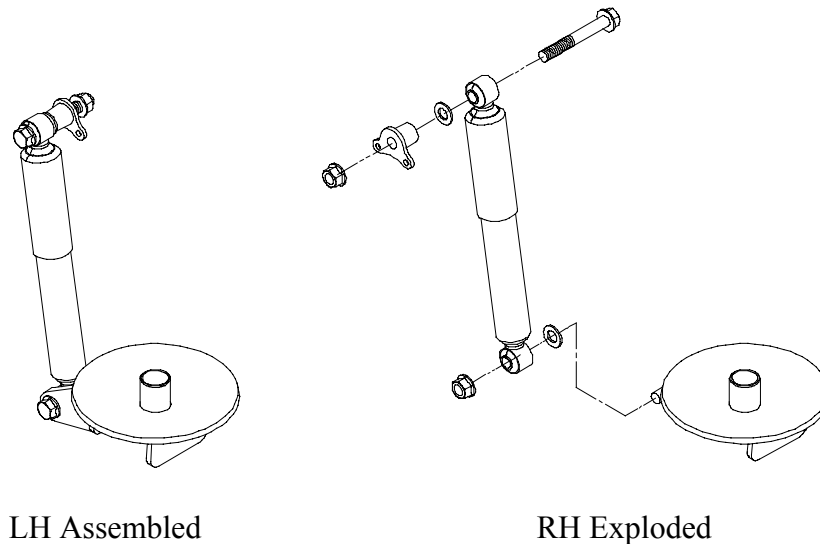

FIGURE 6
Shock absorbers are provided on the 1000 Series Suspension as an option to provide specific ride properties for different road conditions. The 1000 Series suspension may be fitted with either forward-mounted or rear mounted shock absorbers. See Fig. 6. The replacement procedure is essentially the same for both types of shock absorber mounting.
STEP 3 – Carefully clean and relubricate the bottom shock absorber threads. Place the bottom eye of the replacement shock absorber onto the shock bracket. Refer to Fig.6 or Fig. 7. Install and tighten NEW 3/4" NC fasteners and hardened washers.